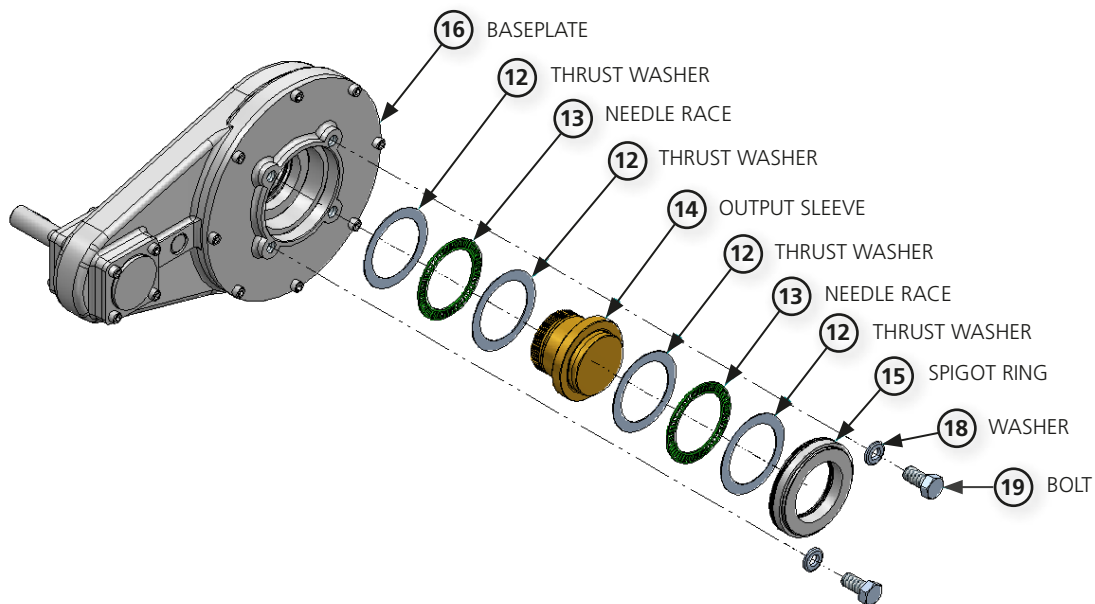
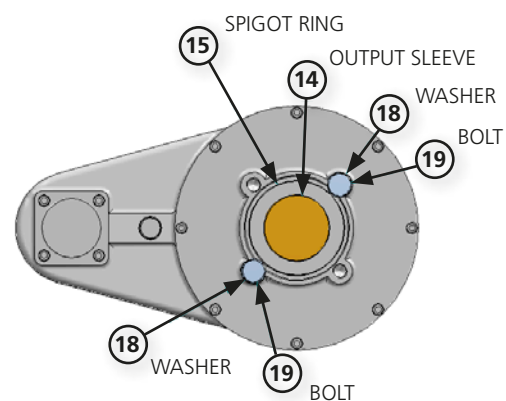

Figure 7 – Bevel and spur gearbox output sleeve assembly
Figure 10 – Securing spigot example
Refer to Figure 7. The output sleeve arrangement is identical for all gearboxes although large gearboxes have cylindrical roller thrust bearings instead of needle roller bearings.
⚠ IMPORTANT: The thrust bearings in the output **MUST** be fitted correctly, along with the output sleeve and the spigot ring. Refer to Figure 7. The thrust bearings (13) **MUST** have a thrust washer (12) at each side of the bearing. A bearing / washer assembly **MUST** be fitted at each side of the output sleeve thrust shoulder.
⚠ We recommend fitting a bolt (19) and washer (18) fixture into the base of the gearbox as illustrated in Figure 7 and Figure 10. Note that the washers must overlap the spigot ring (15). This will stop the output sleeve assembly from becoming detached from the main body. The bolts and washers are not supplied by Rotork.